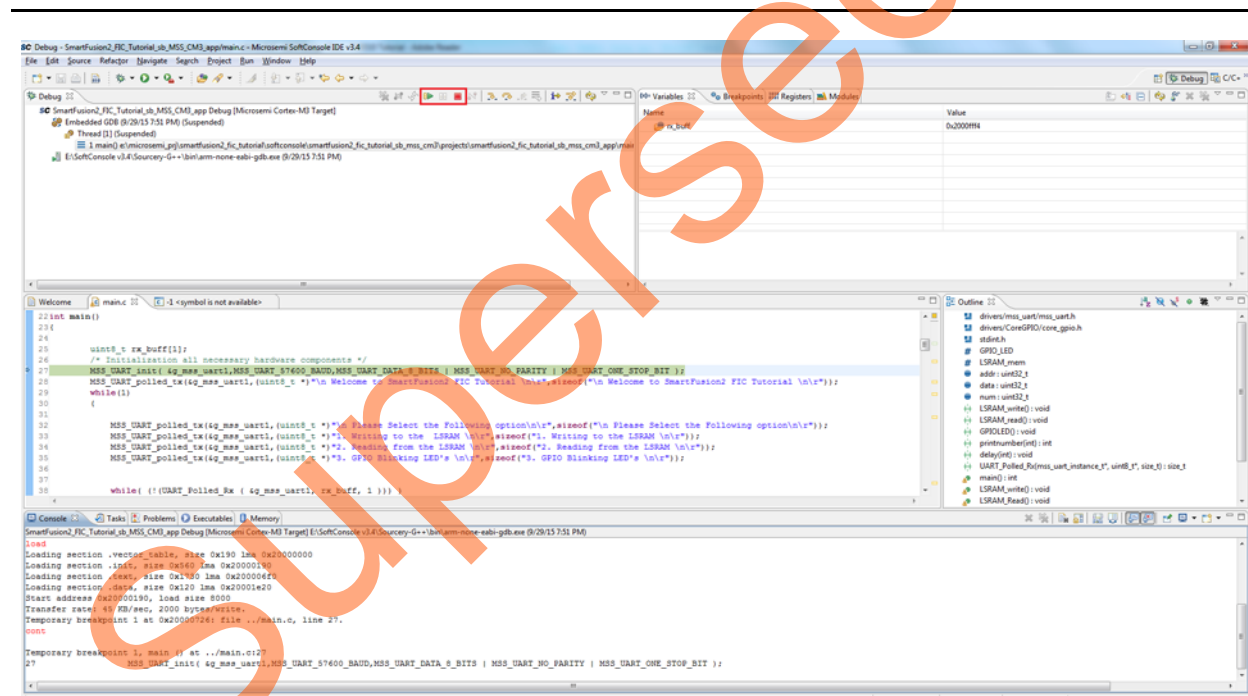

Figure 53 • Debug Perspective
- Debug Perspective is similar as shown Figure 53.